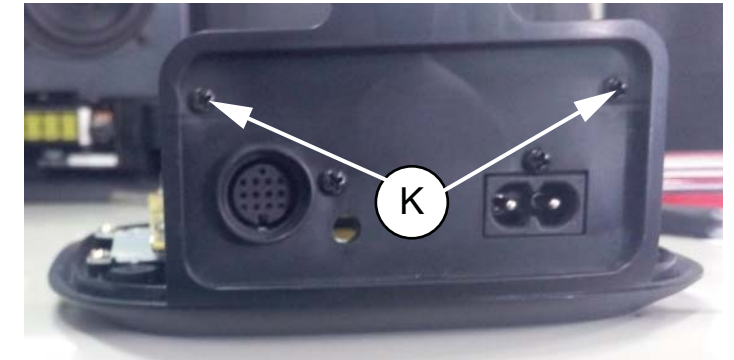

Figure 13
- 2) Loosen 2 screws "K" as shown in figure 13 to remove the bottom cover assembly.